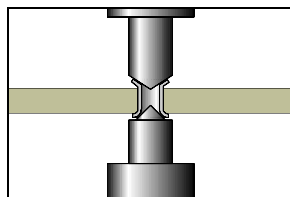

Figure 1: Flare the eyelet into a funnel shape
4. Insert the Eyelet into the circuit board and flare the eyelet end into a funnel shape. Apply light and even pressure. (See Figure 1).